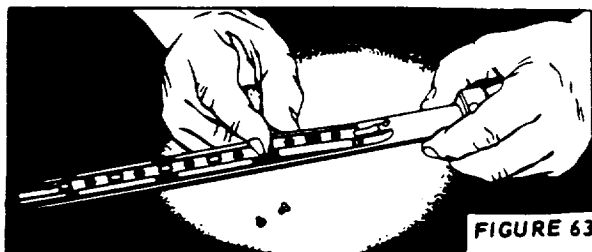

FIGURE 63
b. TO INSTALL GUIDE SHOES (Figure 63)